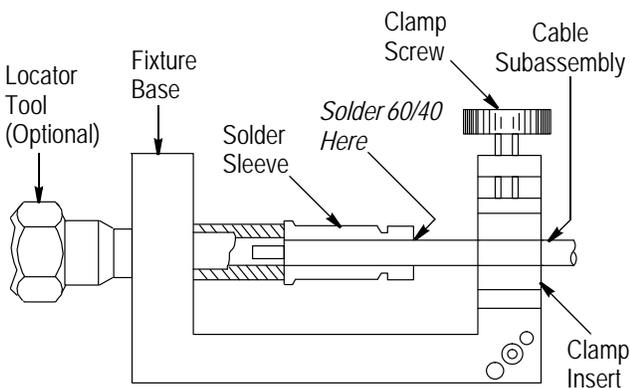

Figure 4
3.2. Solder Inner Sleeve to Cable (Figure 4)
2. Place the loose assembly in the fixture base as shown in Figure 4 (slide the clamp nut back out of the way).